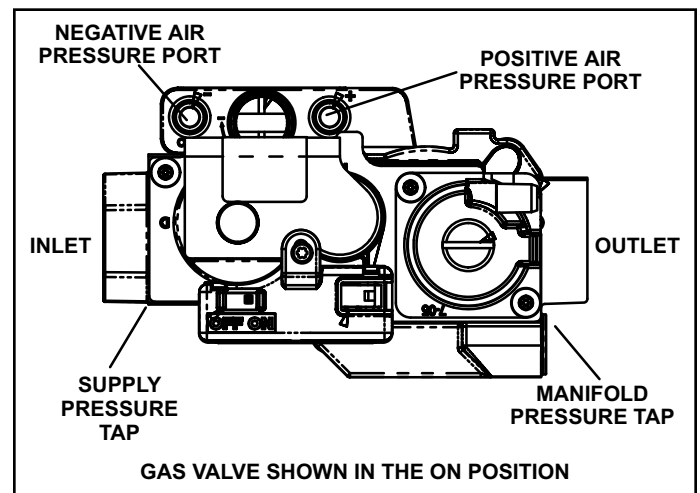

Figure 54. Gas Valve
6. Move gas valve switch to OFF. See Figure 54.
8. Move gas valve switch to ON. See Figure 54.
When testing supply gas pressure, connect test gauge to supply pressure tap on the gas valve. See Figure 54. Check gas line pressure with unit firing at maximum rate. Low pressure may result in erratic operation or underfire. High pressure can result in permanent damage to gas valve or overfire. See Table 25 for operating pressure at unit gas connection (line).